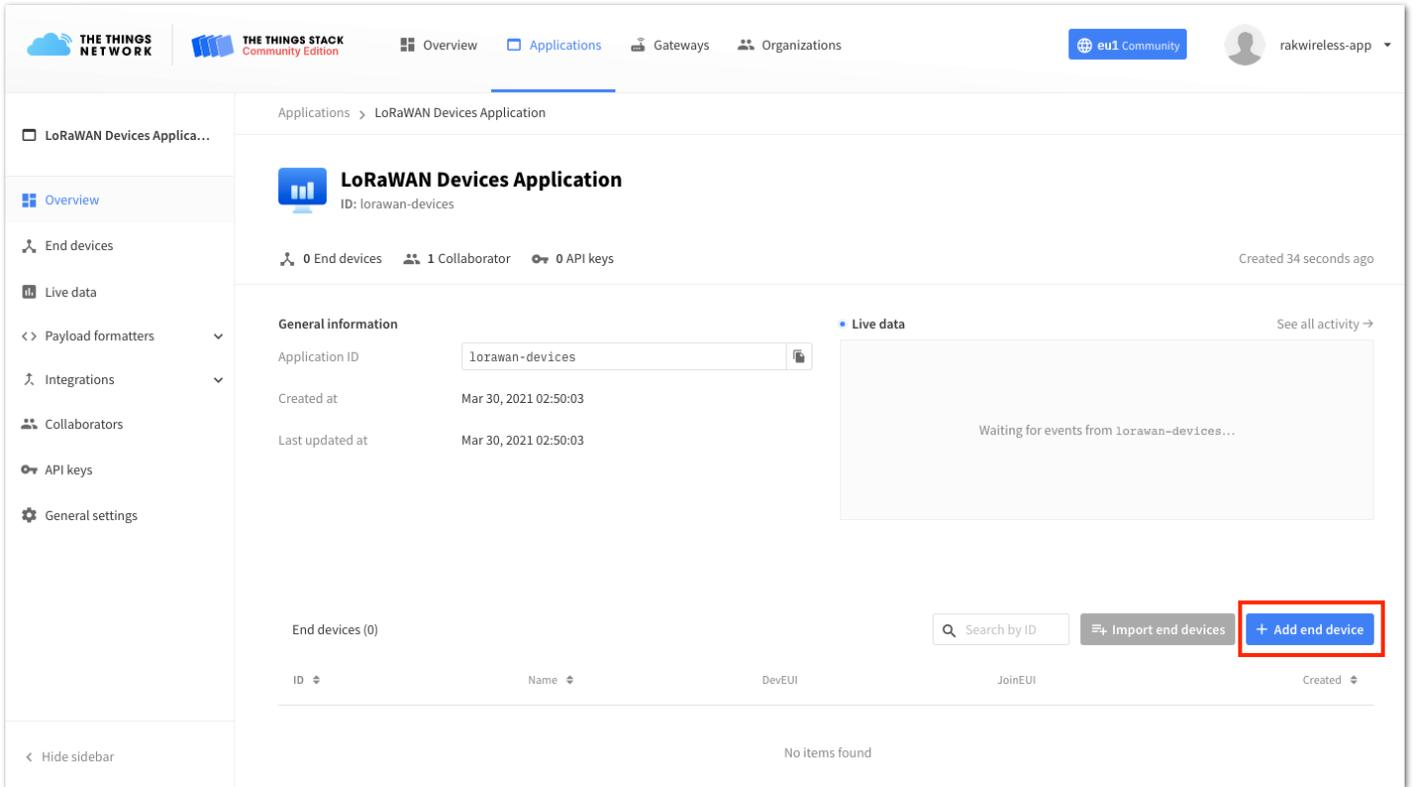

Figure 46: Add end device
1. Go to your application console to be able to register a device. To start adding an OTAA end-device, click **+ Add end device**, as shown in Figure 46.